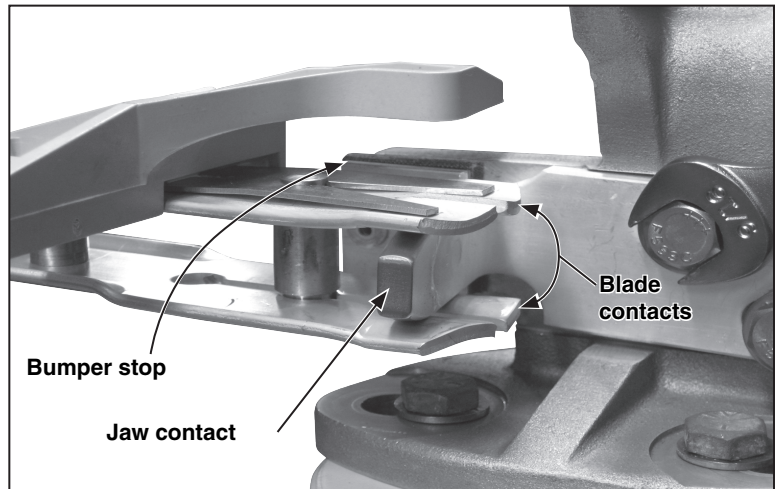

Figure 5. Make sure the jaw contact is fully-centered between the blade contacts and that the blade contacts are against the bumper stop.
- With the operating handle as far as it will go in the closing direction, all main contacts of the interrupter switch are in the fully-closed position. See Figure 5.